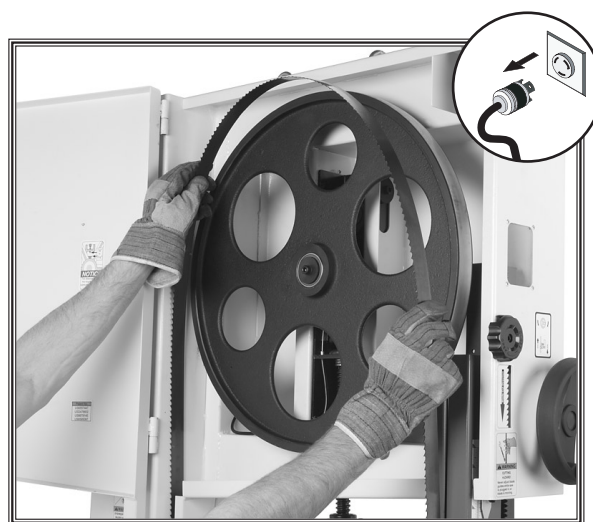

Figure 62. Typical example of placing blade on the wheels.
2. Slip the blade through the guides, and mount it on the upper and lower wheels (see **Figure 62**).